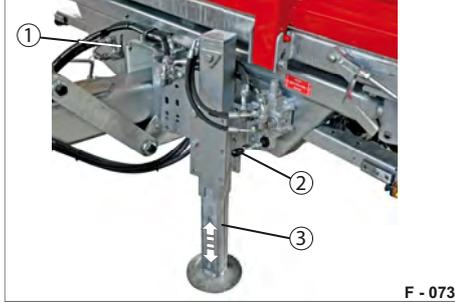
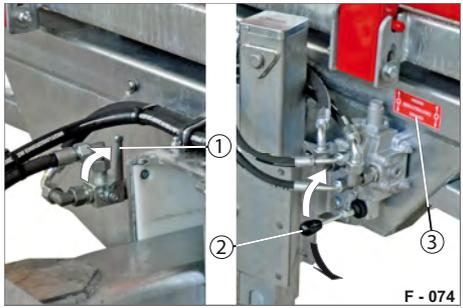

Fig. 73 Support extended
Fig. 74 Operating support
► Shift the switch lever (Fig. 73/1 & Fig. 74/1) to the hydraulic supply of the support.
► Turn the operating lever (Fig. 74/2) in the corresponding direction to extend or retract the support.
► Observe the sticker for operation (Fig. 74/3) on the front side.